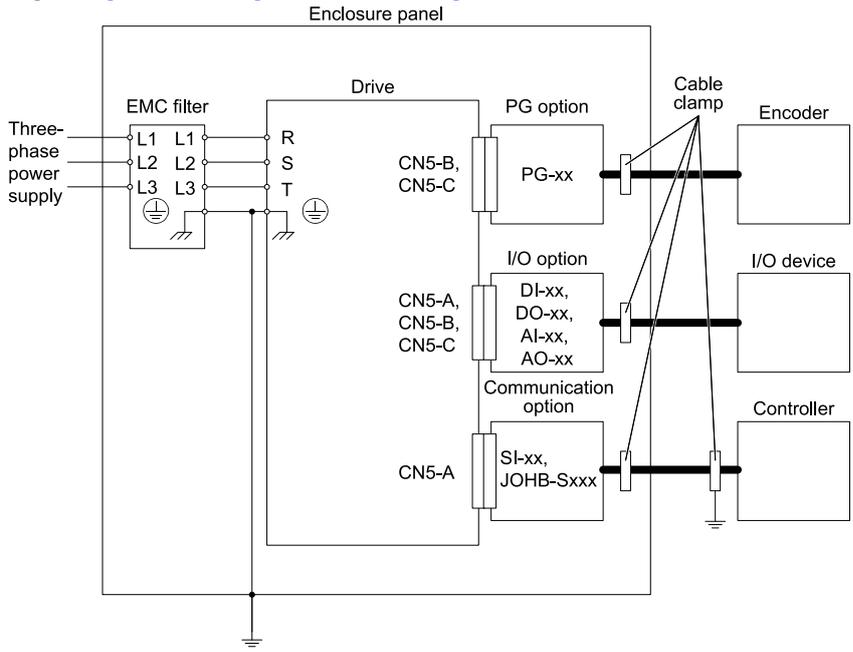
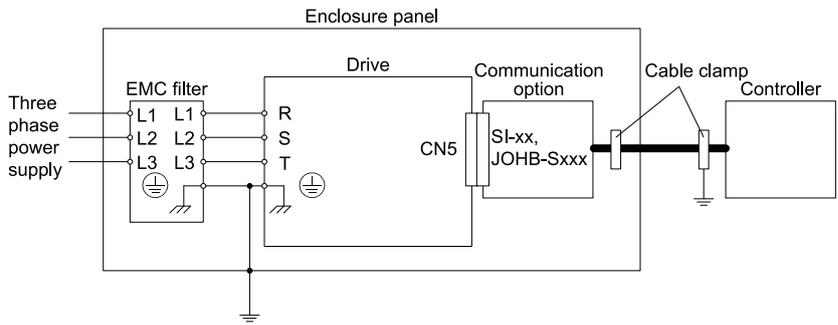

Figure 11.2 Option Installation for CE Compliance: GA700, GA800, Z1000U
Figure 11.3 Option Installation for CE Compliance: GA500, HV600
- 2. Keep wiring as short as possible and ground the largest possible surface area of the shield to the metal panel according to Figure 11.2, Figure 11.3, and Figure 11.4.